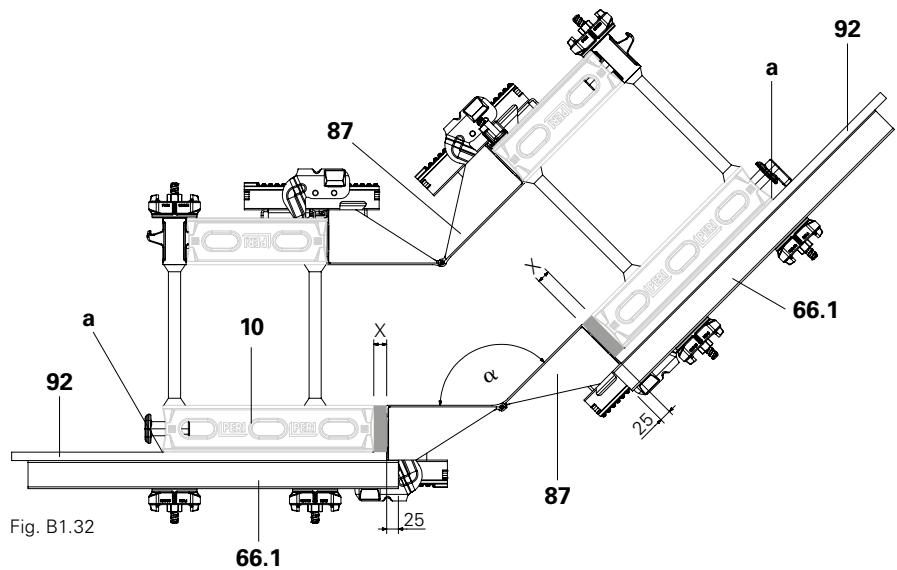

Fig. B1.32
A DAR 80 compensation waler (66.1), or an even longer one (e.g. LWR 170 compensation waler) (80.2), must be installed. This must support the DOMINO DGE articulated corner (87) at 25 mm and cover the joint (a) between the DUO DP 135 panels (10). (Fig. B1.32)